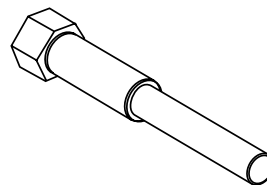

Figure 16. Upper Clutch (Drive Pulley) Removal Tool
- Locate the Clutch Removal Tool provided with the trowel, p/n 23294 located within the documentation box (Figure 16)
4. Again hold the flywheel in place as above and thread the Special Upper Drive Pulley Removal Tool (Figure 16), into the Upper Drive Pulley. Tighten until the taperlock breaks free. Slide the pulley off the shaft.